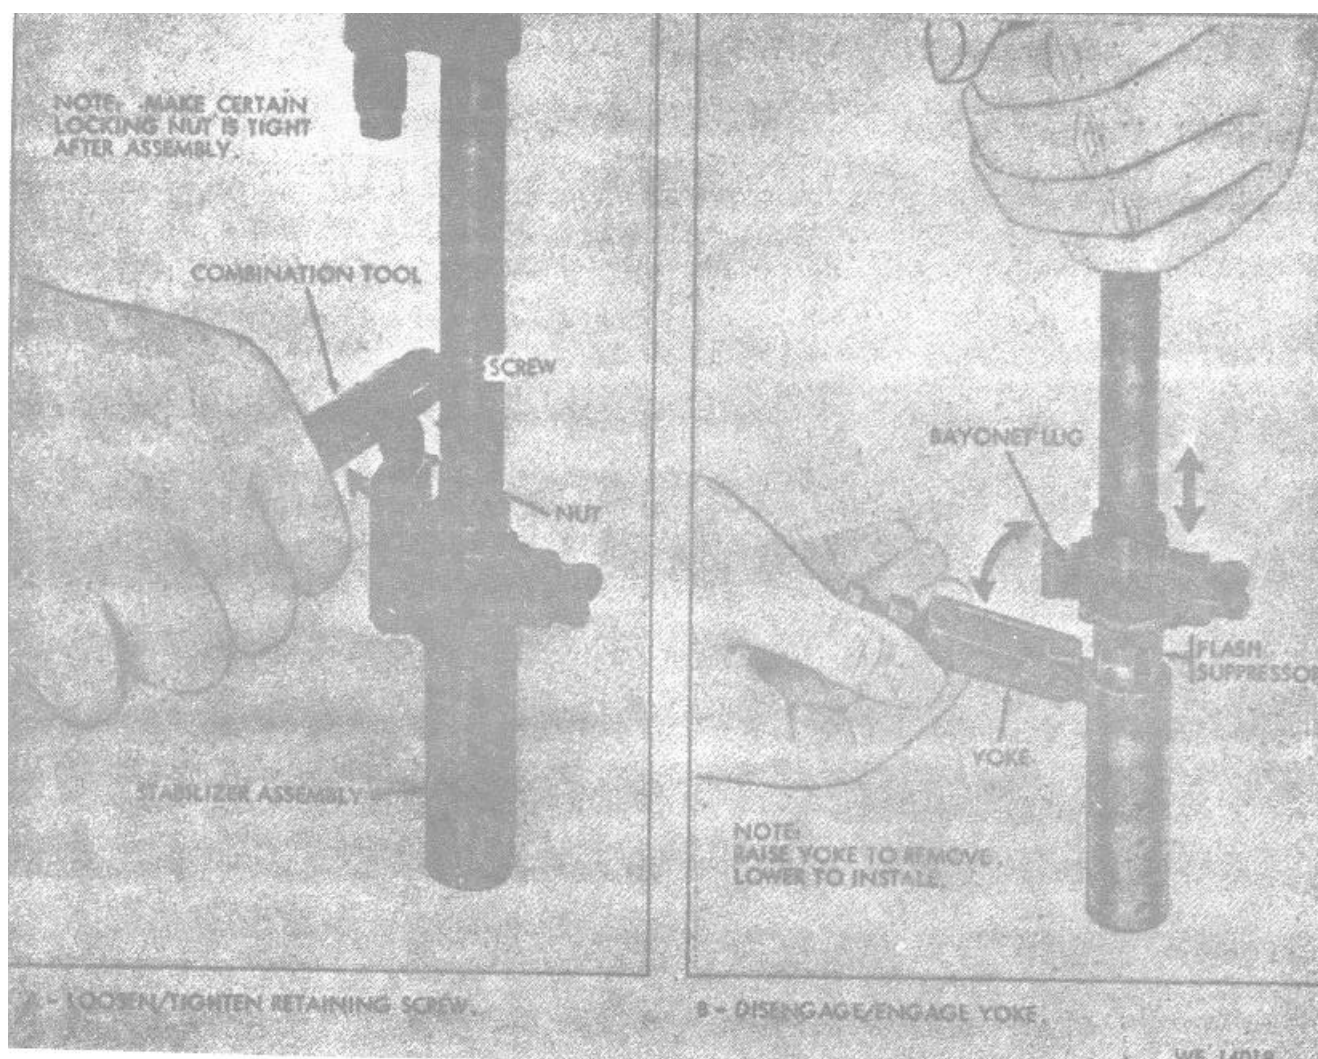

Figure 2-9. Remove/ install stabilizer assembly.
- b. Removal/ installation. Refer to figure 2-9 and TM 9-1005-223-10.